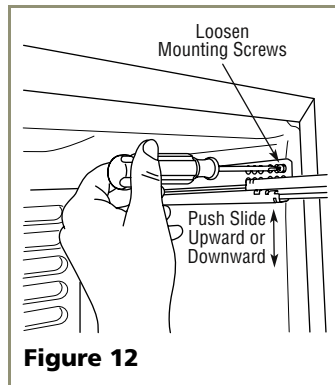

Figure 12
3. Retighten the screws. See **Figure 12**.